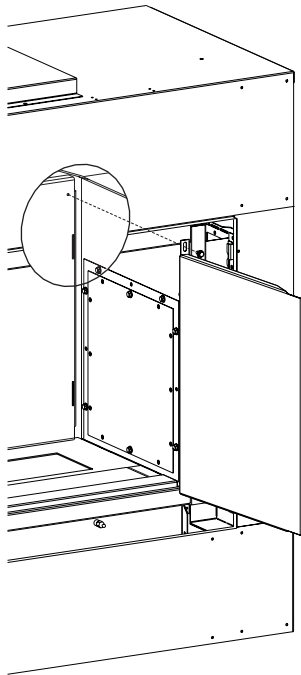

Figure 5
5. If installed, remove painted liners from the fireplace. Remove the screw retaining the right side panel with a 5/16" nut driver, and remove the panel. Repeat the process for the left side panel. **See Figure 5** for screw location.
5. Hold the front of the panel against the side retainer bracket, then shift the side panel reward to engage the rear tabs and slots. At the same time, hook the front flange of the side panel over the side retainer bracket. **See Figures 5 and 6.**